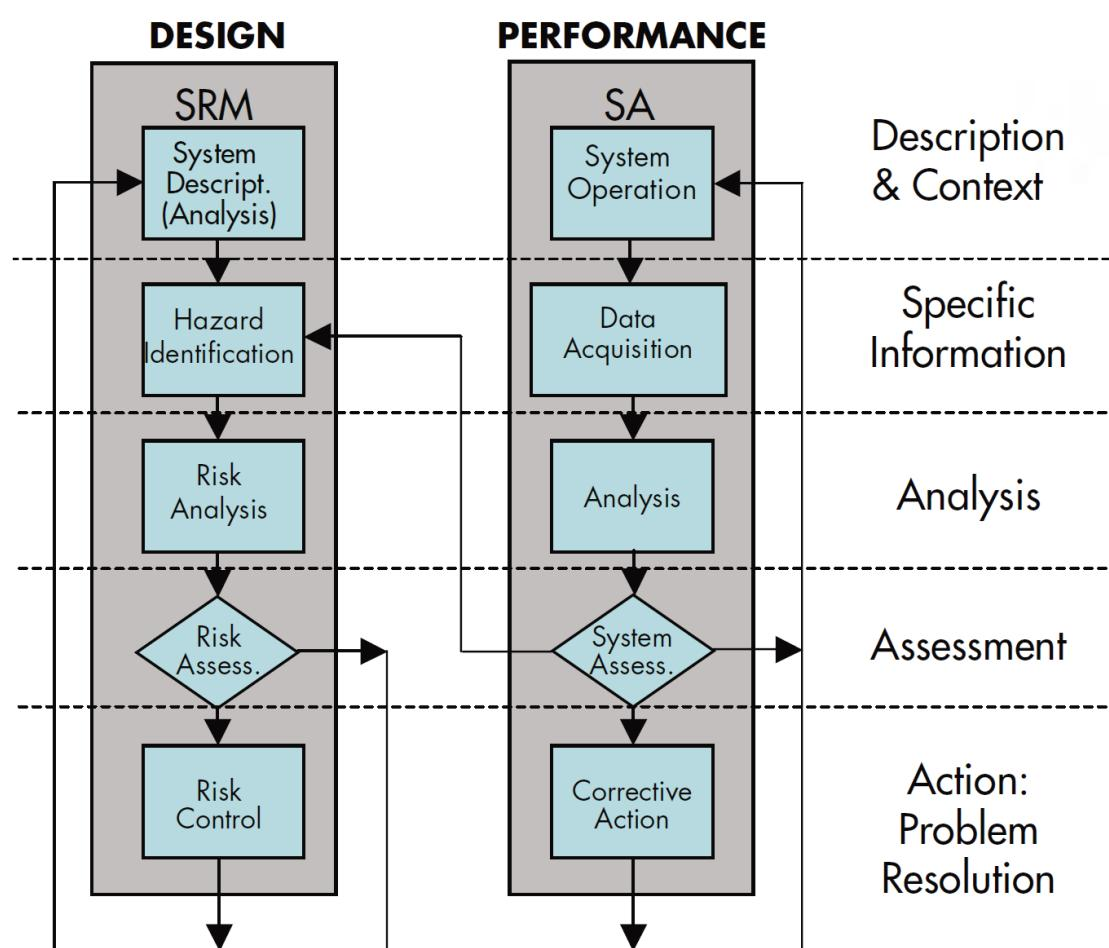

Figure 2.4, Interaction between Safety Risk Management and Safety Assurance
Safety Risk Management (SRM) and Safety Assurance (SA) are the key functional processes of the SMS. They are also highly interactive. The flowchart on figure 2.4 may be useful to help visualize these interactions. The interface element concerns the input-output relationships between the activities in the processes. This is especially important where interfaces between processes involve interactions between different departments, contractors, etc. Assessments of these relationships should place special attention to flow of authority, responsibility and communication, as well as procedures and documentation.